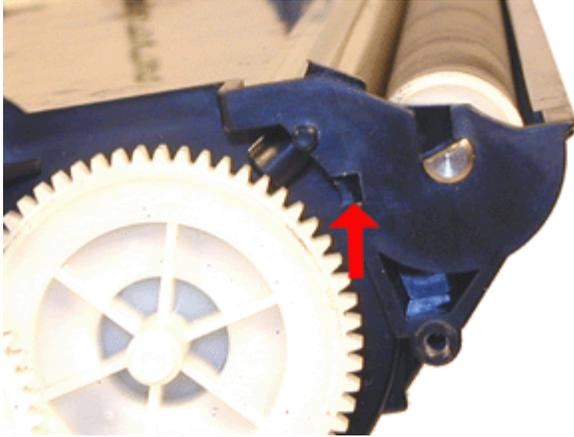

FIGURE 24
21. On the right side of the magnetic roller, press in on the tab and rotate the locking clip up so that the keyed shaft is free. See Figures 24 & 25